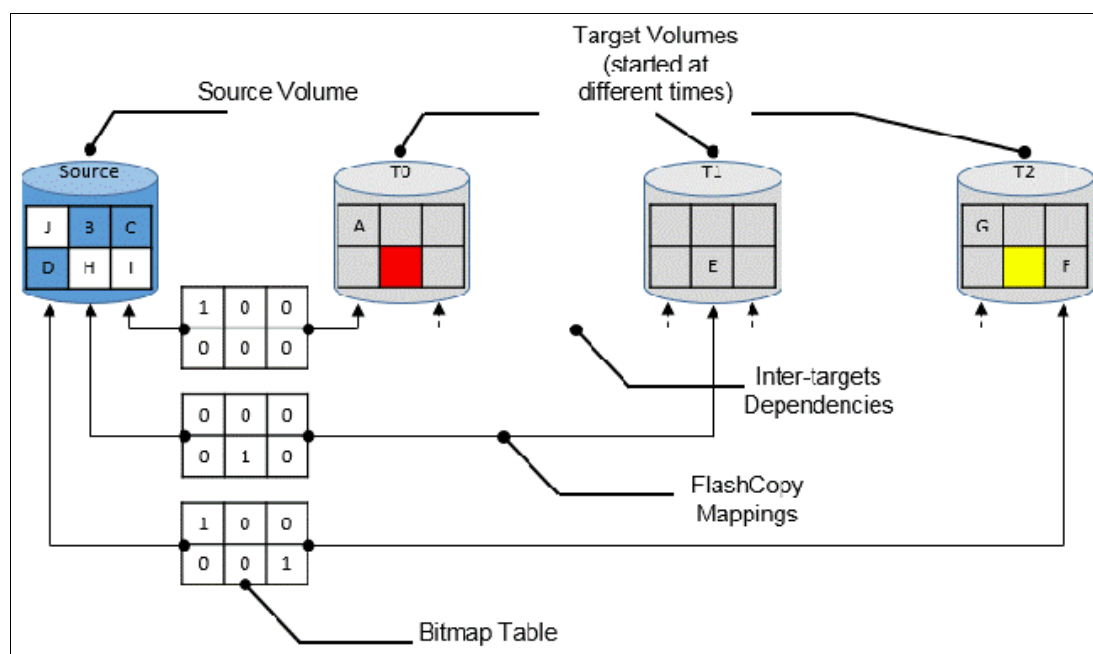

Figure 10-13 FlashCopy dependencies example
To avoid any significant effect on performance because of multiple targets, FlashCopy creates dependencies between the targets. Dependencies can be considered as “hidden” FlashCopy mappings that are not visible to and cannot be managed by the user. A dependency is created between the most recent target and the previous one (in order of start time). Figure 10-13 shows an example of a source volume with three targets.
For example (see Figure 10-13 on page 663), if the yellow grain on T2 is read, it returns “H” because no newer target than T2 exists. Therefore, the source is read.
As another example (see Figure 10-13 on page 663), if the red grain on T0 is read, it returns “E” because two newer targets exist for T0, and T1 is the oldest of those targets.
For example, in Figure 10-13 on page 663, if the grain “G” is changed on T2, it must be copied to T1 (next oldest not yet copied) first and then changed on T2.
- If the grain in the target that is being written is not yet copied, the grain is copied from the oldest copied grain in the mappings that are newer than the target, or from the source if none is copied. For example, in Figure 10-13 on page 663, if the red grain on T0 is written, it is first copied from T1 (data “E”). After this copy is done, the write can be applied to the target.